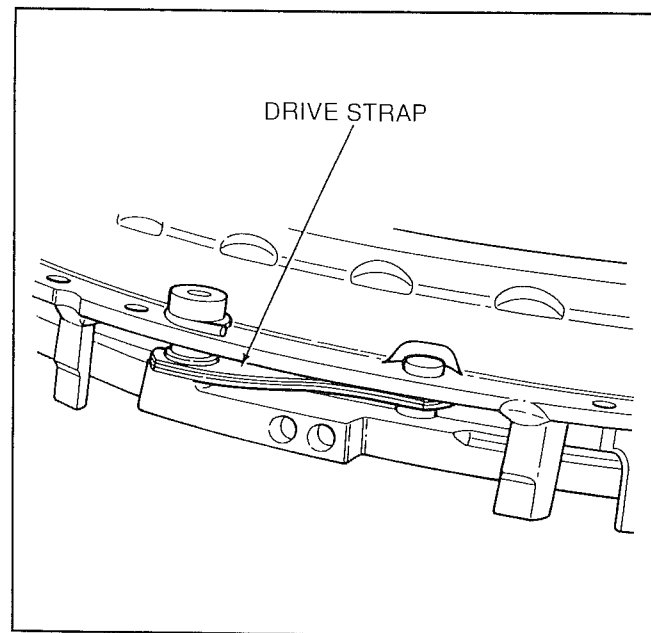

Figure 9-3. Normal Drive Strap
4. Examine the drive strap assemblies for bends or kinks. Normal drive strap units form a smooth, gently curving "S" shape when viewed from the edge, with all laminations fitting tightly together (Fig. 9-3). Bent or kinked drive straps will show an area of sharp bending next to the rivet or bolt attachments and/or noticeable gaps between laminations.